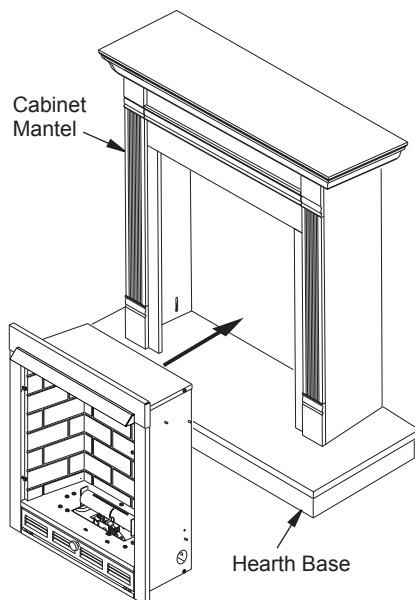

Figure 12 - Installing Fireplace into Mantel Assembly
8. Carefully insert fireplace into cabinet mantel (see Figure 12). Be careful not to scratch or damage hearth base or cabinet mantel (see manual instruction sheet).